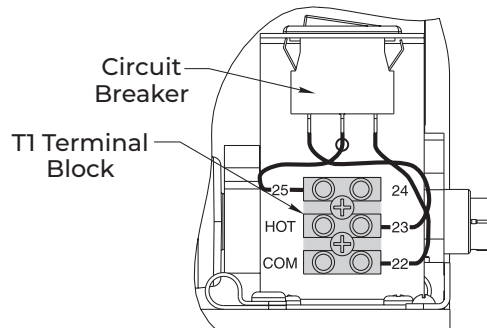

Figure 28
3. Attach incoming HOT and COM wires to Terminal Block T1. (Figure 28)
7. Attach incoming HOT and COM wires to Terminal Block T1. (Figure 28)